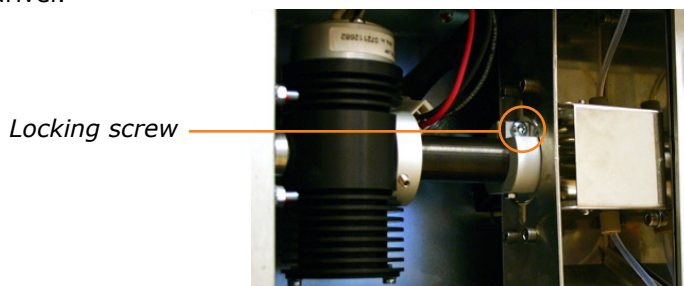

Figure 5-13. Loosen the Locking Screw (Fixed and Variable Detector Shown)
4. Loosen the screw locking the UV lamp in a vertical position (see Figure 5-13) using a Torx 20 screwdriver.